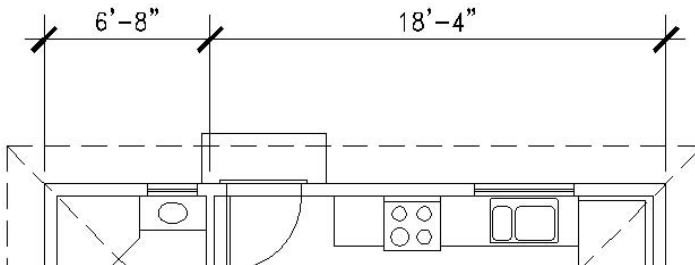

FIGURE 11.15: The completion of the Continue command
3. Click the upper-right corner of the house. The second dimension is drawn in line with the first (see Figure 11.15). Note that the same prompt has returned to the Command window. You could keep picking points to place the next adjacent dimension in line, if there was need of one. Press Esc to cancel the Continue command.